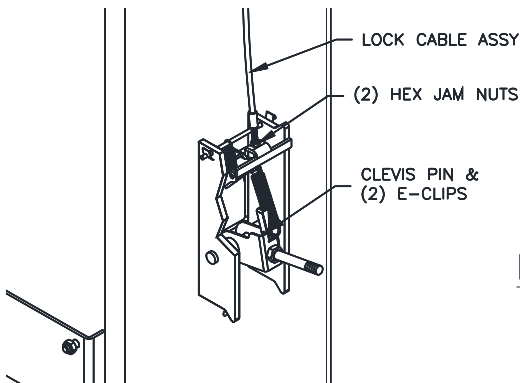

**Fig. 14 – Hose Connection**
- 29) Hoses should connect to cylinders with a 90 degree elbow rotated 45 degrees upward and be routed thru hose guide, **Fig. 14**.